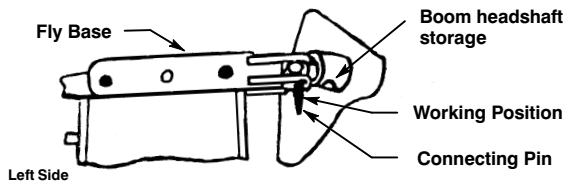

Figure 4–9
8. Remove two fly connecting pins from the storage rings on the rear fly picture frame on the fly base section. Install them through the fly pivot lugs (18) on the right side of the boom. Refer to Figure 4–11. (Install the pins with the head on top and the keeper on the bottom.) Install the pin keepers.
13. Continue to lower the boom to 2° angle to swing the fly base around the boom head until the fly lugs engage with the cross shafts on the left side of the boom. Refer to Figure 4–7.